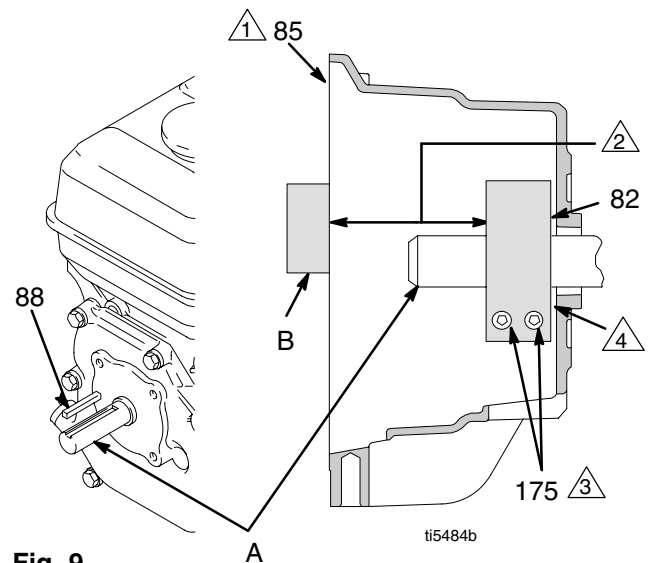

Fig. 9
4. Fig. 9. Loosen two screws (175) on clamp (82),
5. Push screwdriver into slot in clamp (82) and remove clamp.
1. Fig. 9. Install engine shaft key (88).
2. Tap clamp (82) on engine shaft (A) with plastic mallet. Maintain dimension shown note 2. Chamfer must face engine.
3. Check dimension: Place rigid, straight steel bar (B) across face of clutch housing (5). Use accurate measuring device to measure distance between bar and face of clamp. Adjust clamp as necessary. Torque two screws (175) to 125 ± 10 in-lb (14 ± 1.1 N·m).